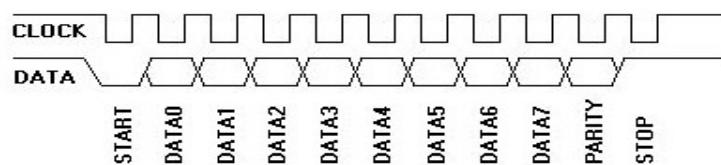
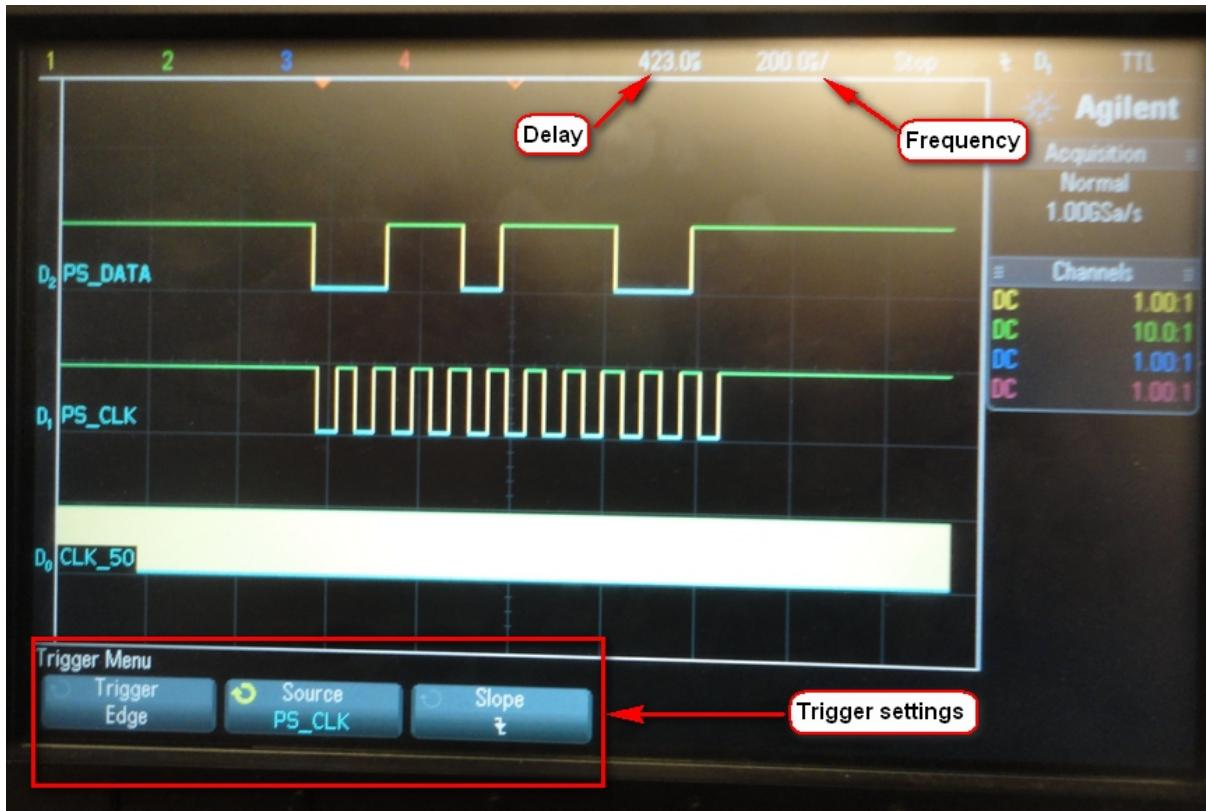

Figure 70-Timing circuit for the PS2 keyboard interface
Figure 72-Sample of a data transfer from a keyboard to a device
The link above gives very good insight into the PS2 keyboard. We will now concentrate on the timing circuit. In this tutorial we will use both Quartus and the MSO-X-3024A, in order to investigate and get a better understanding of the PS2 protocol for the keyboard. **Figure 70** is a timing diagram, where by data is sent serially from a keyboard to a device, such as a computer. We can make the following observations:
The result should look similar to **Figure 72**. We can make several observations:
- The PS_clk signal has 10 clock pulses and 11 active low states. This coincides with the clock in **Figure 70**.
- The results displayed on the scope in **Figure 72** verify the diagram in **Figure 70**.